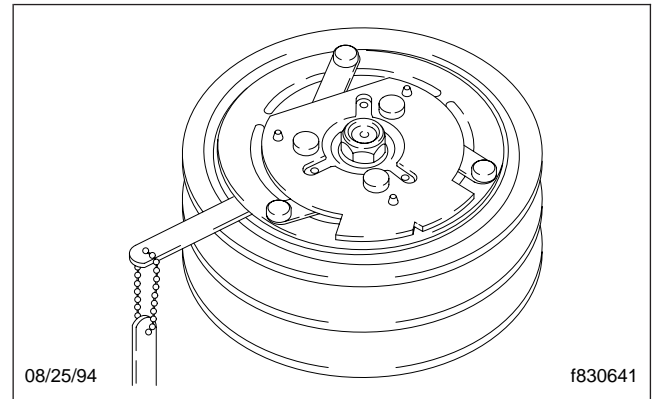

Fig. 1, Drive Plate Clearance Inspection
4. On a Sanden refrigerant compressor, use a feeler gauge to check that the drive plate clutch clearance is 0.016 to 0.03 inch (0.4 to 0.8 mm). See **Fig. 1**. If the drive plate clutch requires adjustment, see **Group 83** of the *Acterra® Workshop Manual*.